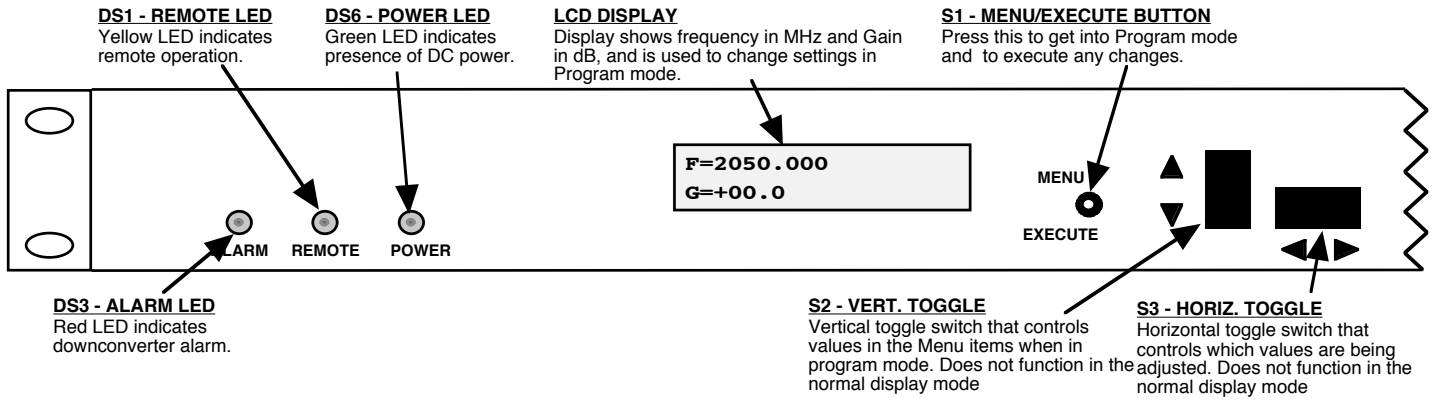

FIGURE 2.3 2016-225 Front Panel Controls and Indicators
Figure 2.3 shows the front panel controls and indicators.
6. Be sure DS6 (green, DC Power) is on and DS2 (red, Alarm) is off (Figure 2.3).
7. **AC Fuse** - The fuse is a 5 mm X 20 mm, 2 amp slow blow (Type T) and is inserted in the far slot in the drawer below the AC input as shown in Figure 2.3. There is a spare fuse in the near slot. If a fuse continues to open, the power supply is most likely defective.